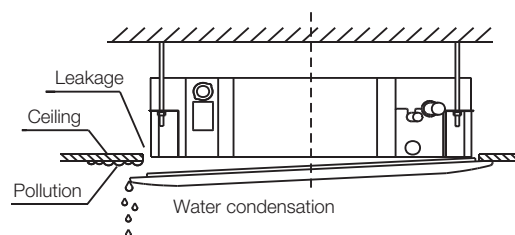

Fig.4-17
- 3) Malfunction described in Fig.4-17 can be caused by inappropriate tightness the screw.